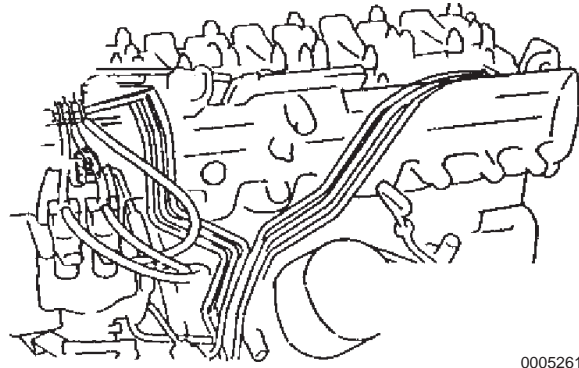

Figure 6-12
7. Remove the fuel injection pipe (**Figure 6-12**).